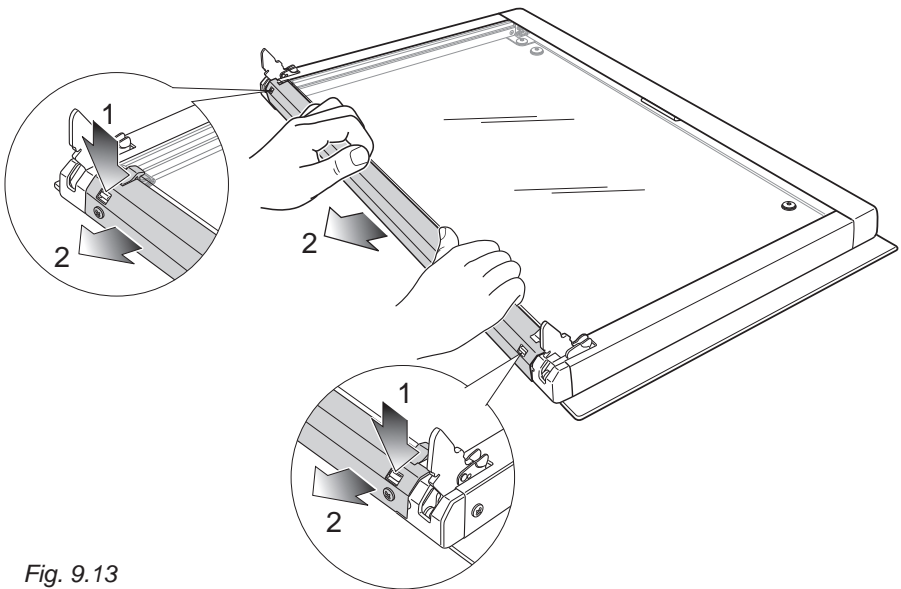

Fig. 9.13
**IMPORTANT:** The door shall be placed horizontally as per fig. 9.13.